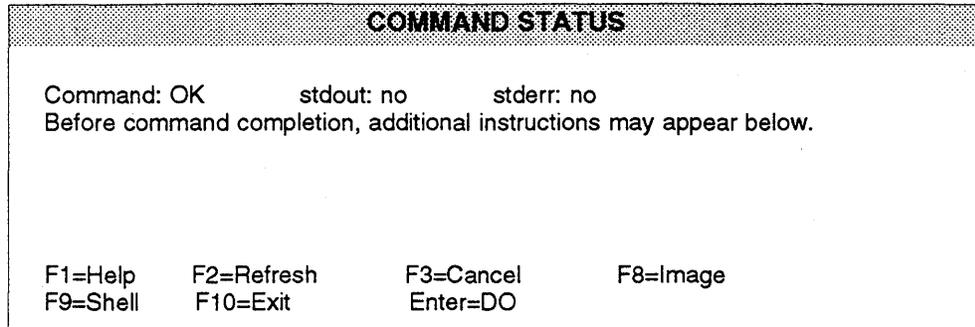

Figure 4-23: Command Status Menu
- 3 Press **[ENTER]** when completed. The Command Status will display as shown in Figure 4-23.